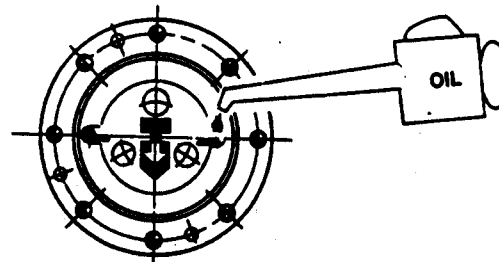

Figure 2.
37. Fill each wheel hub with recommended lubricant to bottom of fill plug opening. See Figure 2.
4. Move the machine until the plug is lined up as shown in Figure 2. Clean area around the axle hub drain/fill plug. Remove the plug and check oil level. Oil level must be level with the bottom of the fill plug hole. If low add recommended oil, see Section 1050.
8. Move machine to place axle in position shown in Figure 2. Fill axle hub to level with bottom of fill hole with recommended lubricant. See Section 1050. Install plug.
4. Separate lateral axle housing (1, Figure 5) from intermediate housing (3, Figure 2). Repeat on opposite side.
5. Remove disc (64), five brake discs (65) and five intermediate discs (66). Remove three pins (67).